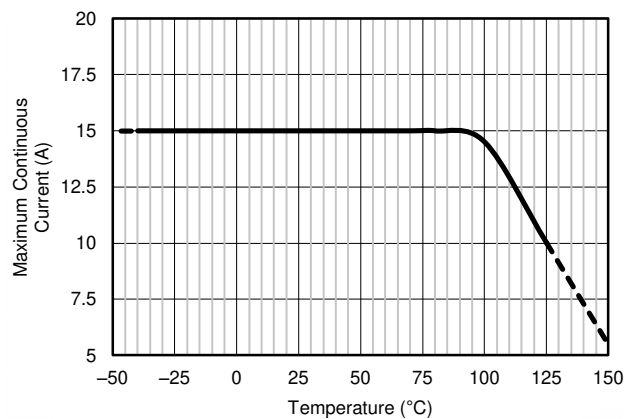

图 7-1. Maximum Current vs Temperature
- (3) The supply voltage range maximum is 36 V, but the reference voltage cannot be higher than 18 V.
- (4) See 图 7-1 and the *Layout* section for additional information on the current derating and layout recommendations to improve the current handling capability of the device at higher temperatures.
- (5) See the *Integrated Shunt Resistor* section for additional information regarding the integrated current-sensing resistor.
- (6) System gain error includes amplifier gain error and the integrated sense resistor tolerance. System gain error does not include the stress related characteristics of the integrated sense resistor. These characteristics are described in the *Shunt Resistor* section of the *Electrical Characteristics* table.
- (7) The internal shunt resistor is intended to be used with the internal amplifier and is not intended to be used as a stand-alone resistor. See the *Integrated Shunt Resistor* section for more information.
External factors (such as ambient temperature, external air flow, and PCB layout) may contribute to how effectively the heat developed from the current flowing through the total package resistance may be removed from the device. Under the conditions of no air flow, a maximum ambient temperature of +85°C, and 1-oz. copper input power planes, the INA250-Q1 device can accommodate continuous current levels up to 15 A. As shown in Figure 7-1, the current handling capability is derated at temperatures above the +85°C level with safe operation up to 10 A at a +125°C ambient temperature. With air flow and larger 2-oz. copper input power planes, the INA250-Q1 may safely accommodate continuous current levels up to 15 A over the entire -40°C to +125°C temperature range.